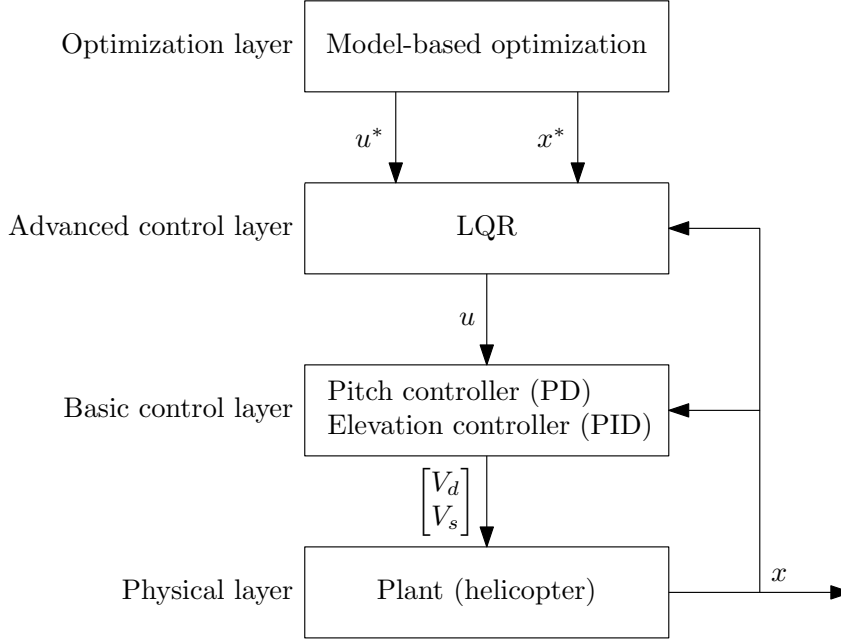

Figure 8: Illustration of the layers in the control hierarchy used in Sections 10.3 and 10.4.
As long as the system is following the calculated optimal trajectory x^* the calculated input sequence u^* is implemented. If a deviation from x^* is observed, the manipulated variable will be modified by the feedback term. This new control hierarchy is illustrated in Figure 8.
3. An alternative strategy would be to use an MPC controller. How would you realize this controller? Discuss advantages and disadvantages with an MPC controller compared to the controller you have implemented. Also, think about how the structure in Figure 8 would look if you used MPC.